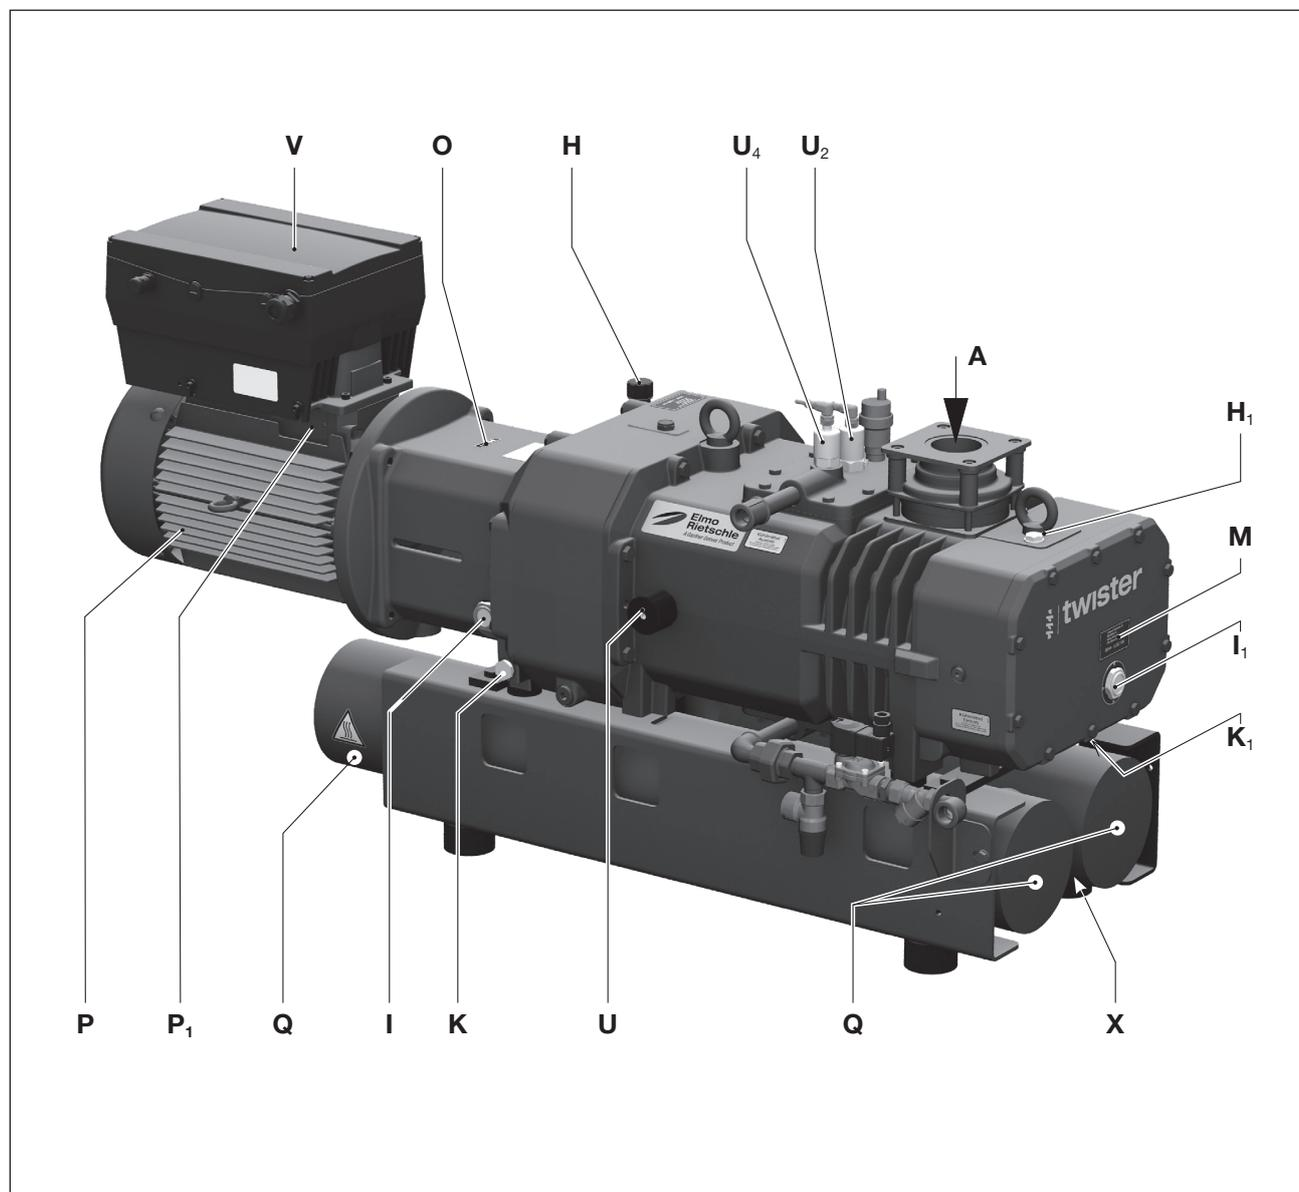

Fig. 2 Vacuum pump S-VSI 300 (42) FU
- The machine may be operated in the speed and frequency ranges according to the data plate (fig. 2/N1)
The three-phase motor with integrated frequency converter (fig. 2/V) enables the continuous control of the speed.